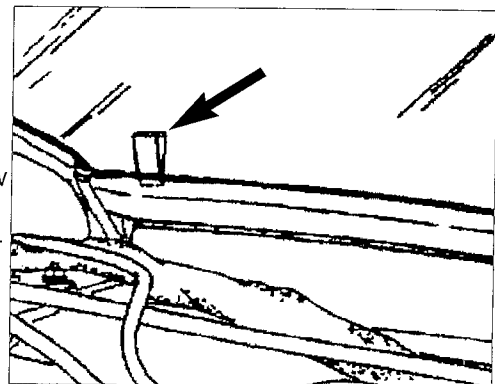
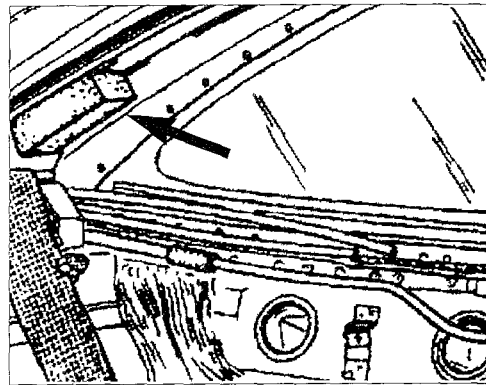

Figure 12
Figure 14
- **If necessary**, provide clearance for the metal frame to the glass using a plastic wedge (Arrow in Figure 12). **Be very careful** not to damage the rear window, primer border or sealing profile. A gap of 2.0mm is required.
- Carefully press the plastic wedge between the inner window frame and the rear glass as shown in figure 12. Check the entire window frame for adequate clearance to the rear window. If it is not possible to gain clearance using the plastic wedge (inside metal frame keeps returning to original position) use cable ties cut into small lengths to act as spacers between the rear glass and frame.
- Glue foam pieces (arrow in Figure 14) part number 993 556 245 00 to the inside of the roof rail trim panels at the location shown in figure 12.